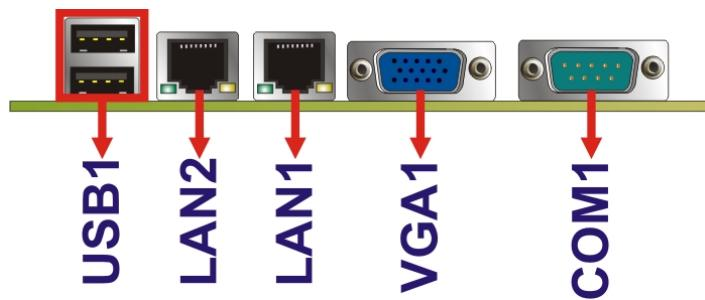

Figure 3-23: External Interface Connectors
Figure 3-23 shows the WAFER-PV-D5252/D4252/N4552 motherboard external interface connectors. The WAFER-PV-D5252/D4252/N4552 on-board external interface connectors are shown in Figure 3-23.
**CN Location:** See Figure 3-23
**CN Location:** See **Figure 3-23**